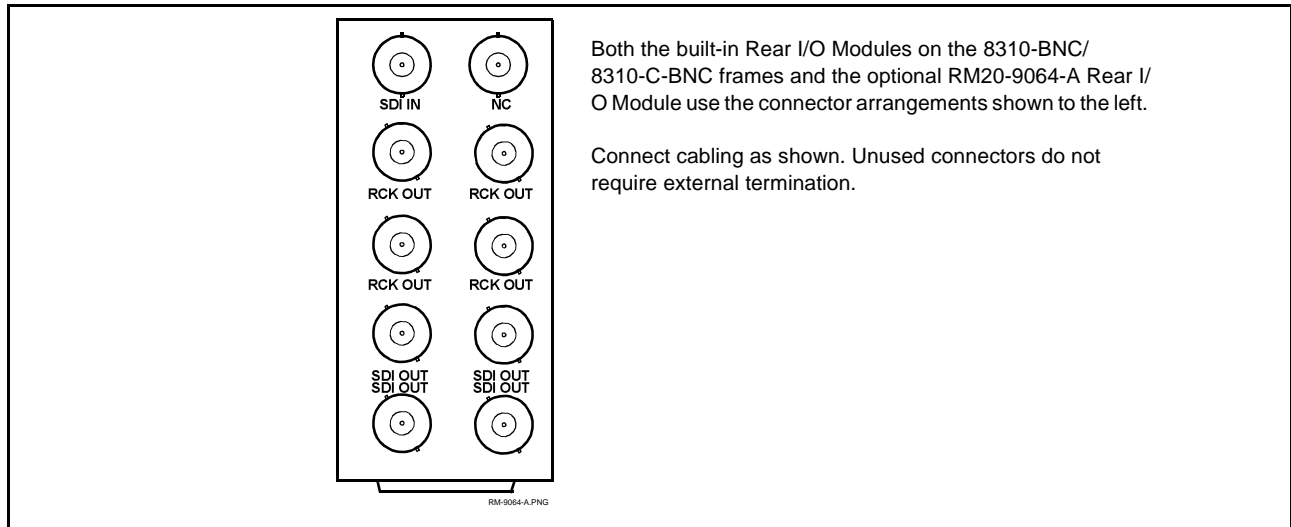

Figure 2-1 9064 Rear I/O Module Connections
8. Connect the input and output cables as shown in Figure 2-1.